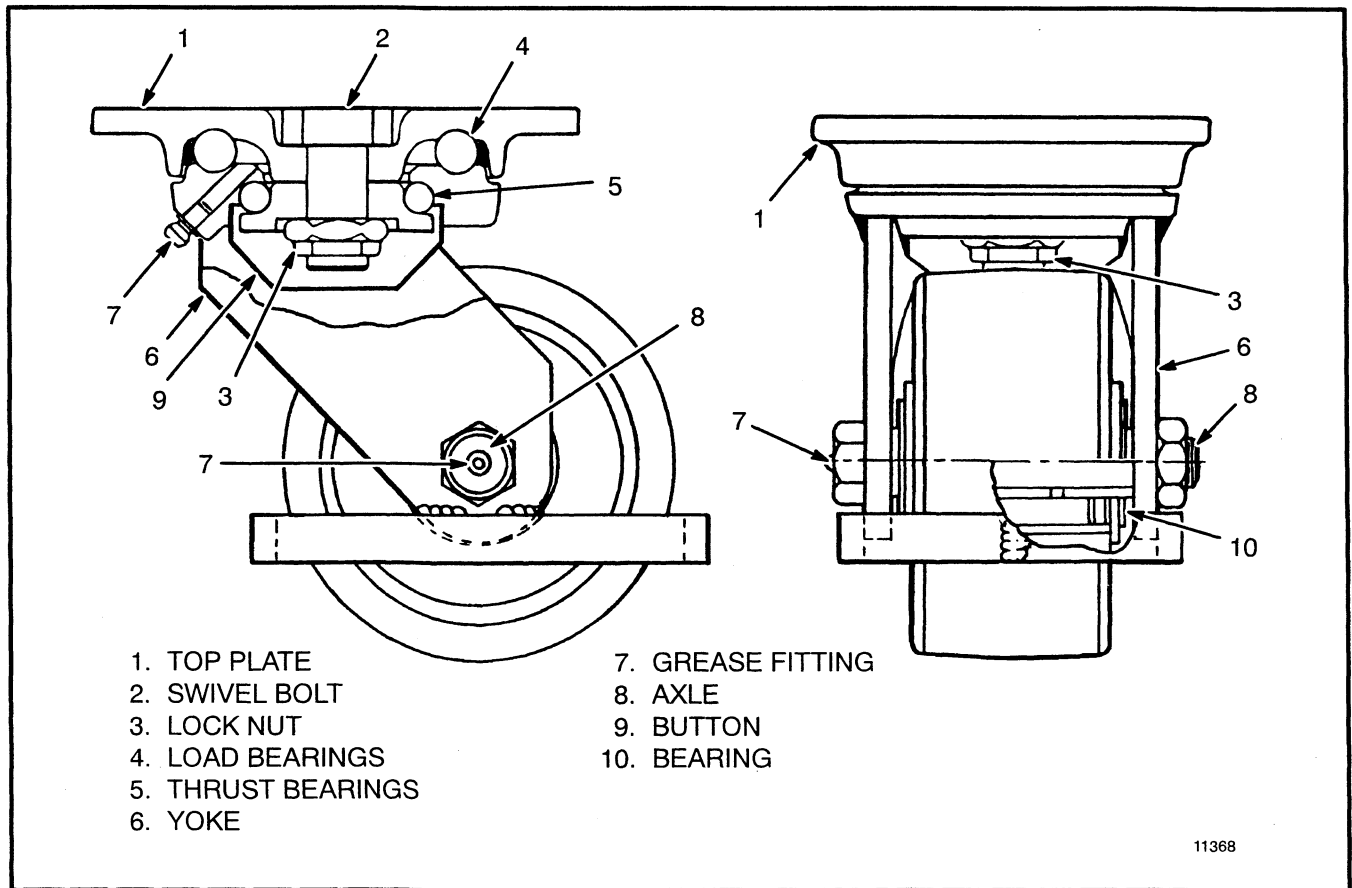
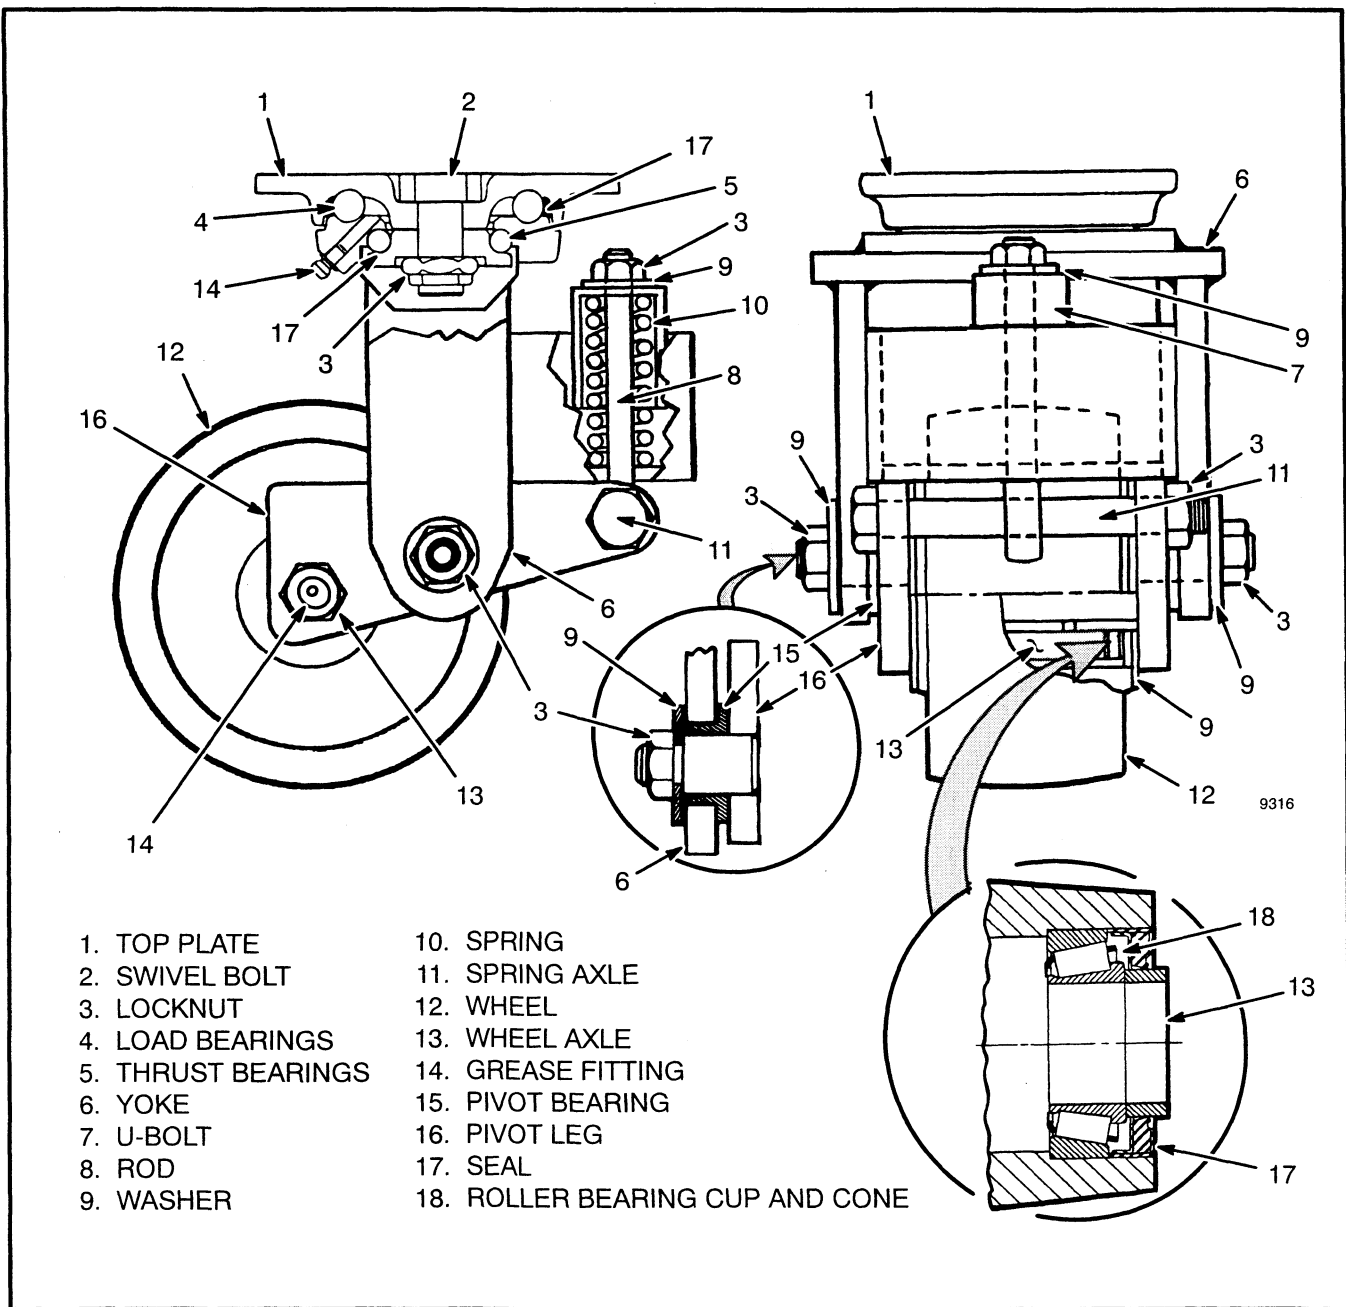
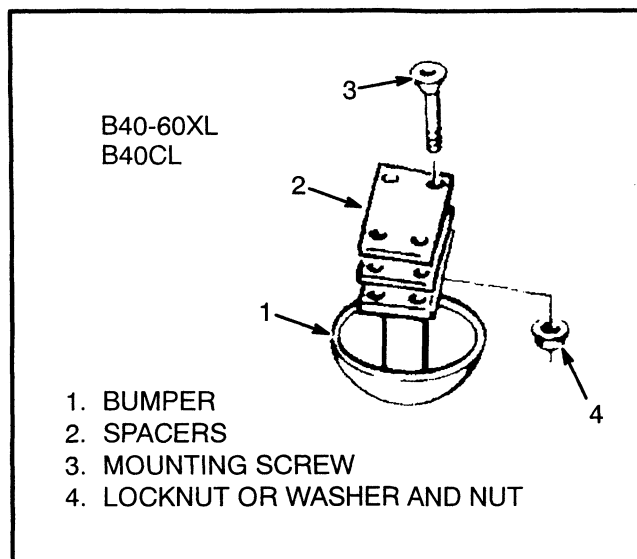

FIGURE 9 - OPTIONAL CASTERS - W40-60XL
FIGURE 10 - OPTIONAL CASTERS – B40-60XL, B40CL
FIGURE 11 - OPTIONAL BUMPER
Removal and disassembly of the standard or optional casters are found in this section. Removal and installation instructions for the optional bumpers are also in this section. See Figure 9 through Figure 11.
CASTER REMOVAL AND DISASSEMBLY - W/B40CL AND W/B40-60XL, SEE FIGURE 9 AND FIGURE 10
6. Remove the eight screws and nuts that fasten the two bumpers to the main frame. Remove the bumpers and spacers. See Figure 11.
CASTER ASSEMBLY AND INSTALLATION - W/B40-60XL AND W/B40CL SEE FIGURE 9 AND FIGURE 10
6. If removed, for the W/B40-60XL and W/B40CL install each bumper with spacers using the four screws and nuts that fasten the bumpers to the main frame. See Figure 11.